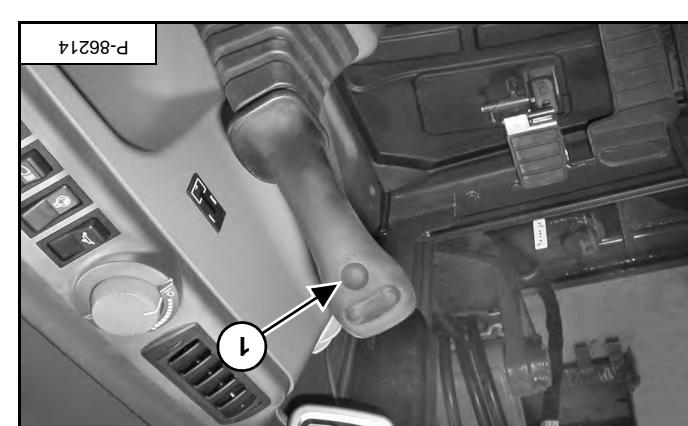

Figure 117
Release the switch to stop auger rotation. Press and hold switch (item 1) [Figure 117] on the right joystick to start auger rotation in the clockwise direction. Release the switch to stop auger rotation. (See the excavator's Operation & Maintenance Manual.)